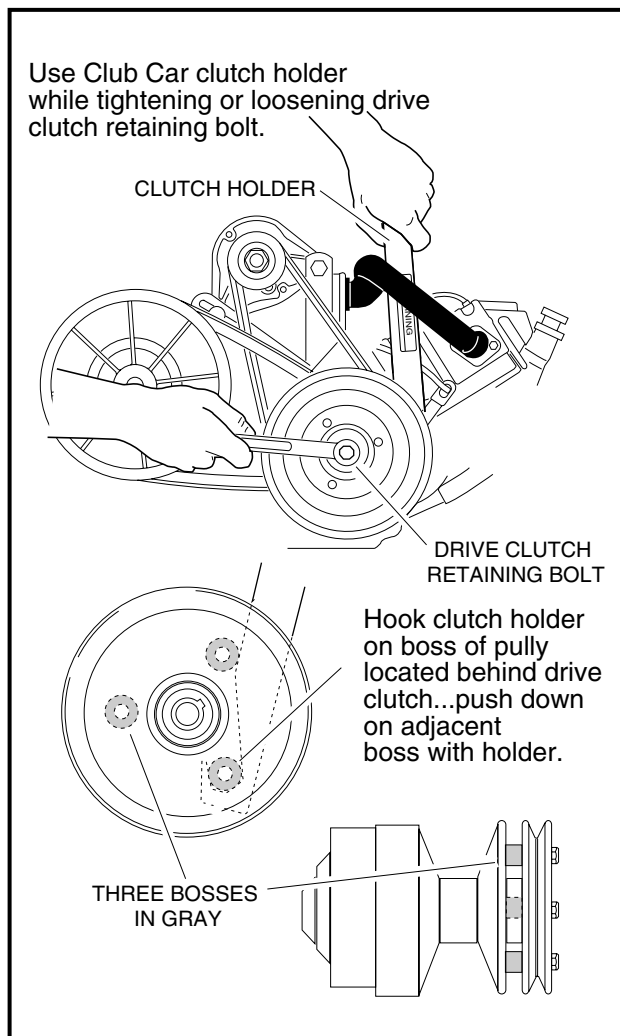
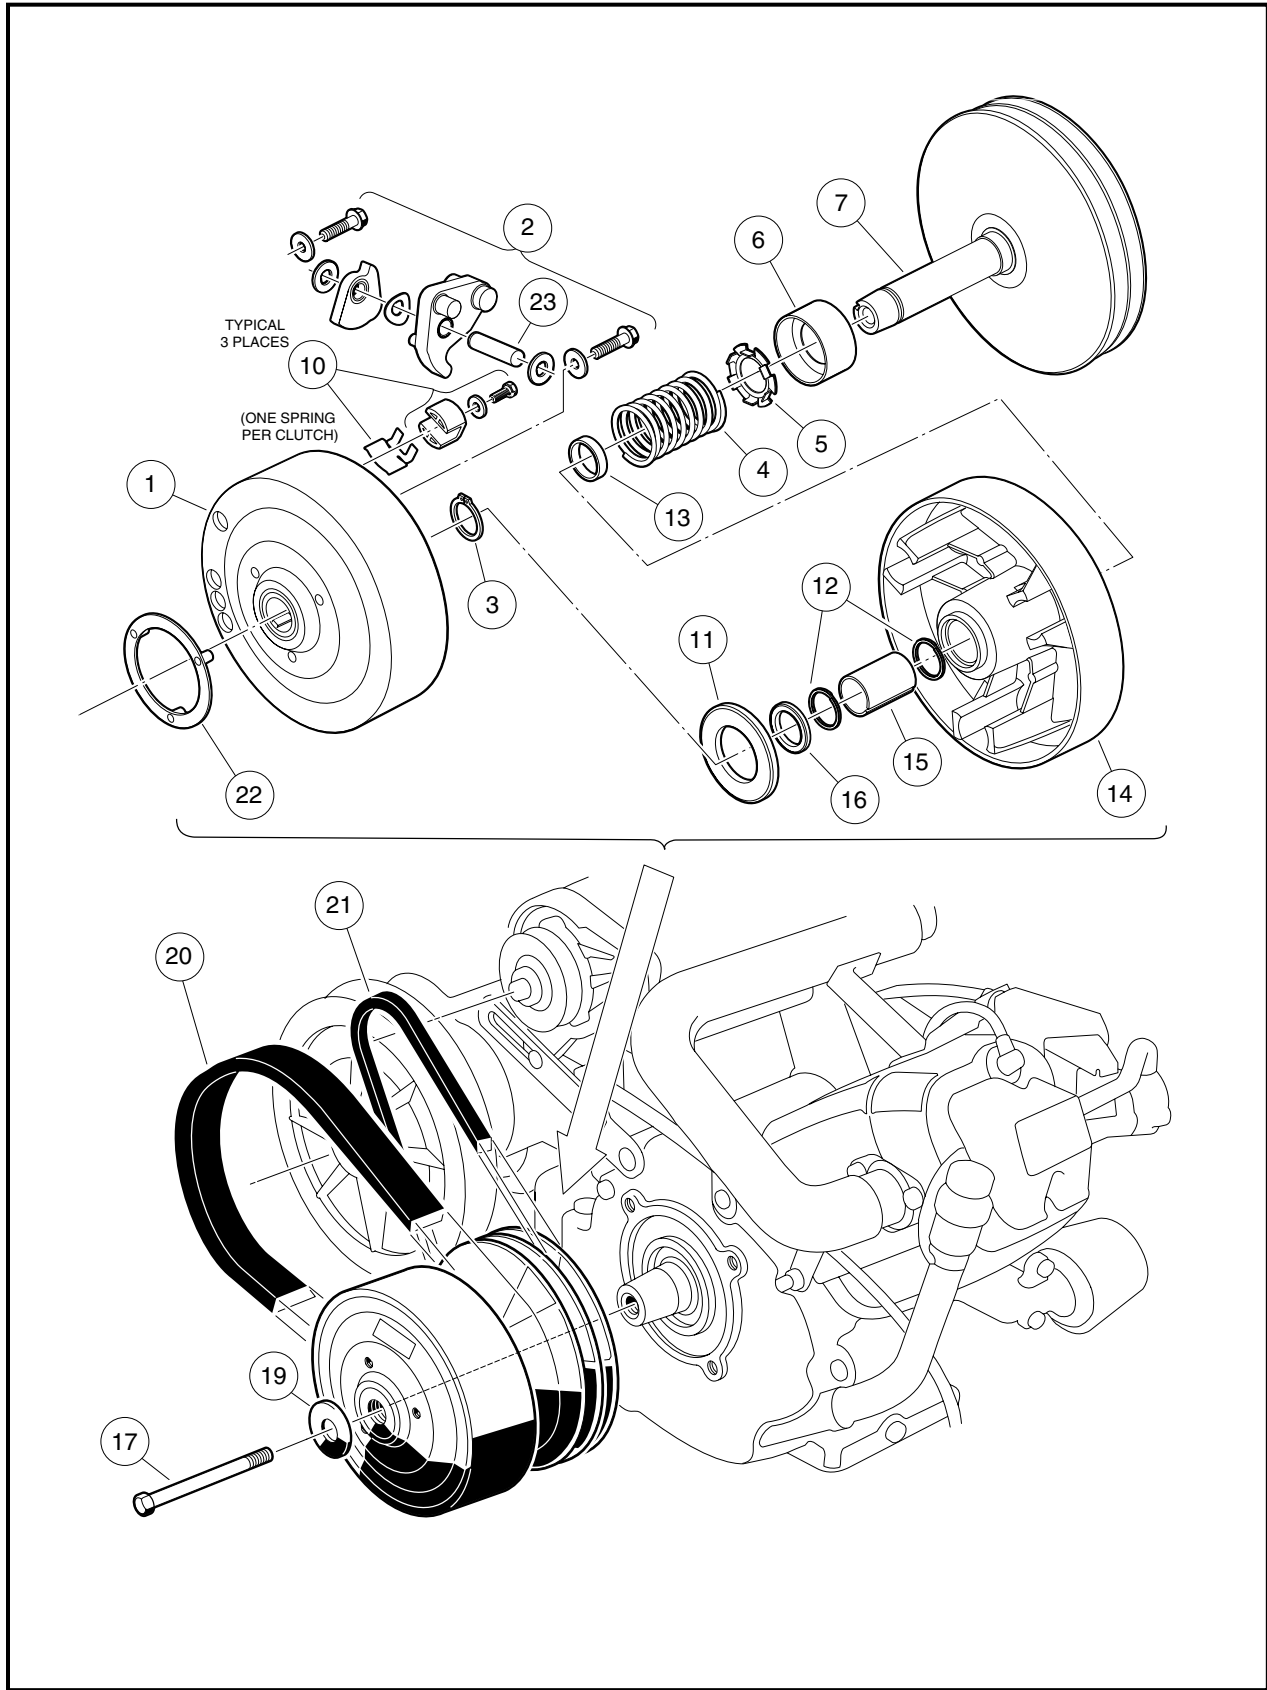
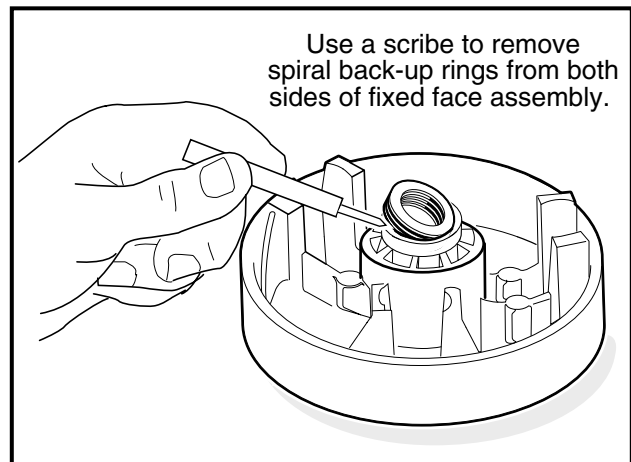
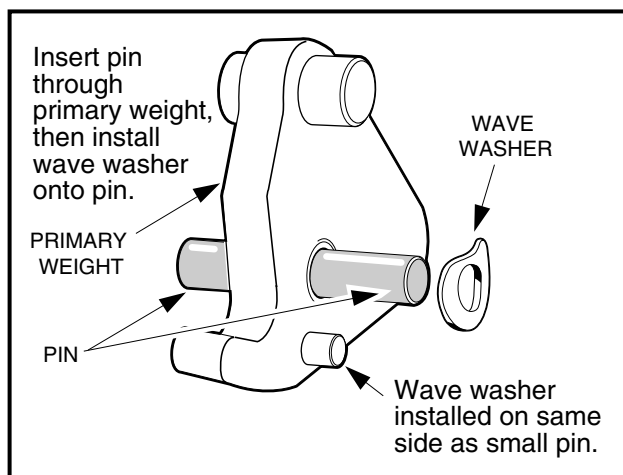

Figure 17-3 Loosen Retaining Bolt
Figure 17-7 Drive Clutch Assembly
Figure 17-11 Spiral Back-up Rings
Figure 17-12 Install Pin and Washer
3. If cleaning both clutches does not solve the problem, disassemble and thoroughly clean all parts of the drive clutch. Be sure to clean the plastic drive buttons (10) (**Figure 17-7, Page 17-9**).
7. Remove the drive clutch retaining bolt (17) and mounting washer (19) (**Figure 17-7, Page 17-9**). **See also Figure 17-3, Page 17-6.**
- **Use only a dry cloth to lightly wipe the shaft (7) of the fixed face assembly (Figure 17-7, Page 17-9). Do not use a brush or steel wool. These will damage the surface of the shaft.**
2. To remove the clutch drive hub (1) (**Figure 17-7, Page 17-9**):
- 2.1. Remove the plastic plug ring (22) from the clutch puller attachment holes in the drive hub (1) (**Figure 17-7, Page 17-9**).
- 2.4. Unscrew the hub puller center bolt from the clutch, forcing the stop nut up against the puller plate, lifting the drive hub (1) from the fixed face shaft (7) (**Figure 17-7, Page 17-9**).
3. Remove the thrust washer (11) from the moveable face (14) (**Figure 17-7, Page 17-9**).
- 5.3. Remove the plastic washers, weights and wave washer from the pins. Before removing, note the orientations of the wave washer and of the primary and secondary weights to one another (**Figure 17-12, Page 17-11 and Figure 17-13, Page 17-11**). Retain all parts.
6. Remove the retaining ring (3) from the shaft of the fixed face assembly (7) and slide the moveable face (14) off the shaft (**Figure 17-7, Page 17-9**). See following NOTE.
**NOTE:** When the moveable face is removed from the hub of the fixed face, the spiral back-up rings (12) must be replaced with new ones at time of reassembly (**Figure 17-7, Page 17-9**).
7. Remove the spacer (13), spring (4), and retainer (5). The spring retainer (5) can be removed from the spring if necessary (**Figure 17-7, Page 17-9**).
9. Use a scribe or small pick to remove the spiral backup rings (12) from each end of the bore in the fixed face assembly (**Figure 17-7, Page 17-9**). See also **Figure 17-11, Page 17-11**. Discard the rings.
1. Inspect the idler bearing (6) for smooth rotation or seal damage (**Figure 17-7, Page 17-9**).
2. Inspect the bore of the moveable face assembly (14) for scarring or wear. The moveable face assembly must be replaced if the bore is worn to a diameter of 0.883-inch (22.4-mm) or larger (**Figure 17-7, Page 17-9**).
3. Inspect the steel shaft (7) on the fixed face assembly. There should be no noticeable wear anywhere on the shaft. Replace the shaft if it is worn, scratched, or damaged (**Figure 17-7, Page 17-9**).
4. Inspect the thrust washer (11) for wear. If it is worn more than 0.030-inch (0.76-mm), turn it over or replace it with a new one.
5. Inspect the primary weights and the hub casting for wear. If the primary weights show signs they are touching the casting, the tips of the weights have worn beyond specification and they must be replaced (**Figure 17-12, Page 17-11**).
1. Press idler bearing (6) onto the shaft of the fixed face assembly (7). Press on the inner race of the bearing only. Make sure that the cup side of bearing is facing away from the fixed face (**Figure 17-7, Page 17-9**).
2. Using needle nose pliers, install the spring retainer (5) onto the spring (4).
3. Install the spring (4) and retainer (5) into the cup of the idler bearing (6).
4. Install the spacer (13) onto the shaft of the fixed face.
5. Install a new spiral backup ring (12) in each end of the bore of the moveable face assembly (14).
6. Install the moveable face assembly (14) onto the shaft of the fixed face assembly (7).
- 6.2. Install the retaining ring (3) (**Figure 17-7, Page 17-9**).
7. Install the primary weights on the mounting pins (**Figure 17-12, Page 17-11**).
8. Install a wave washer on each mounting pin. Make sure that the concave side of the washer faces the side of the primary weight with the small guide pin protruding from it (**Figure 17-12, Page 17-11**).
12. Install the 1/4-20 screws and washers (2) and tighten them to 10 ft-lb (13 N·m) (**Figure 17-7, Page 17-9**).
17. Install the thrust washer (11) onto the moveable face assembly (**Figure 17-7, Page 17-9**).
18. Install the hub assembly (1) on the moveable face assembly and align the match marks made before disassembling the clutch. Press the hub assembly on by hand.
19. Replace the plastic ring (22) hole protector.